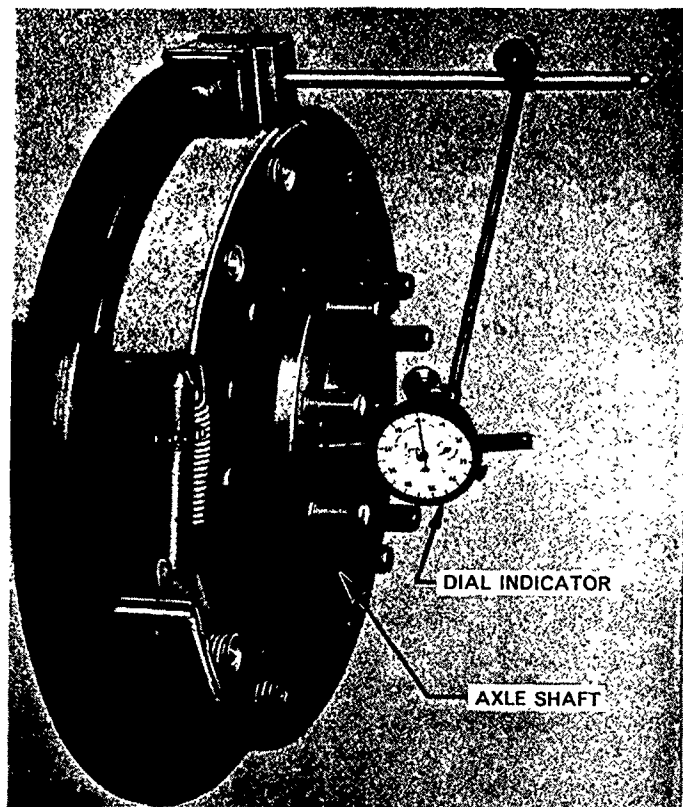

Figure 16
- b. Place a dial indicator on the opposite brake backing plate, Figure 16. Pull out the opposite axle (axle on which the indicator is set) to be sure the cone and